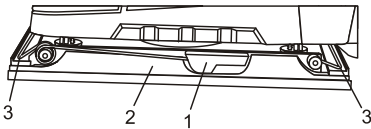

Fig. 1
1. Lift upward and outward on the sandpaper clamp levers (1) located at each side of the sander base (2) (Fig. 1). This will release the sandpaper clamps (3) that are located at the front and rear of the sander base.